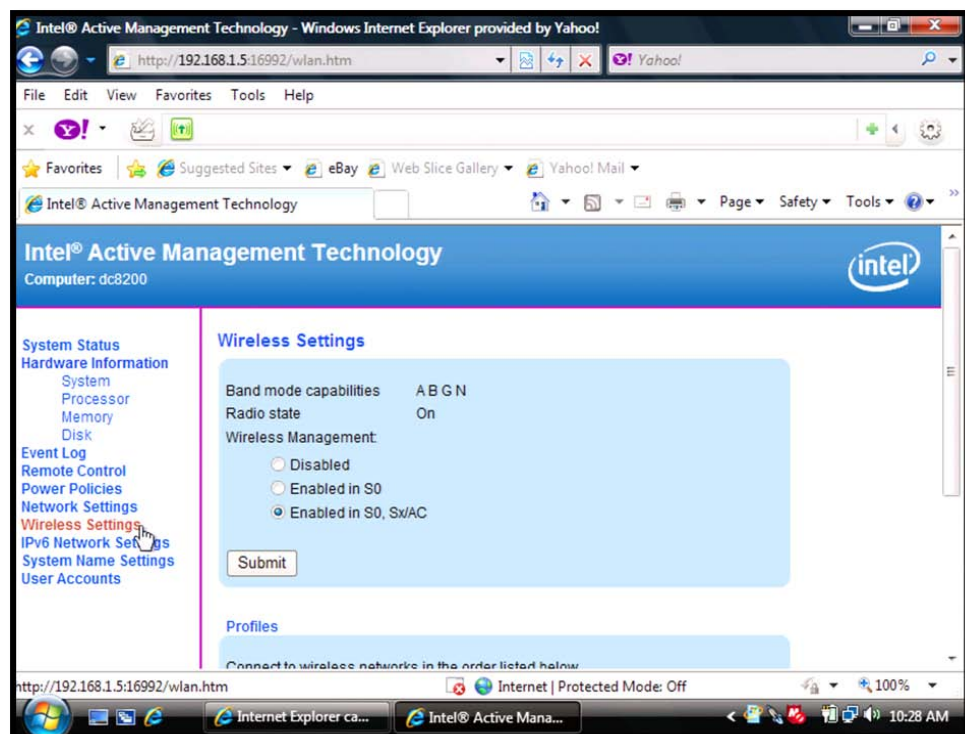

Figure 18. Intel AMT Wireless Settings screen
- ii. Select **Wireless Settings** to configure the wireless power policy (Figure 18).